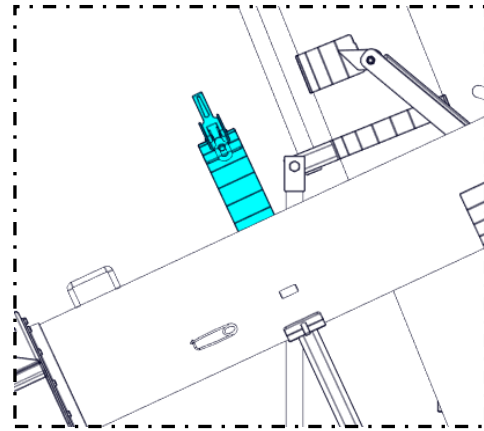

Figure 4.13
- B) Open the top section of the auger support band (Figure 4.13).